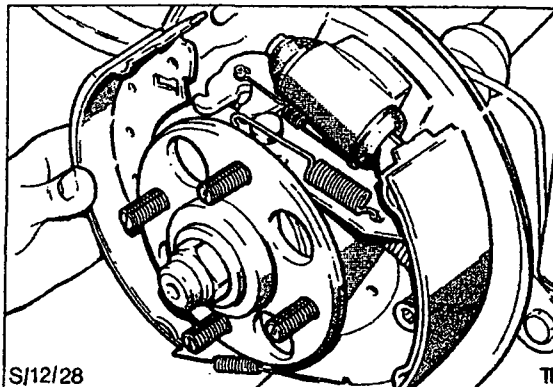

Fig.28. Remove leading shoe.
2. Remove leading shoe hold down spring and clip, unhook shoe from anchor and wheel cylinder, detach springs and remove shoe. Fig.28.